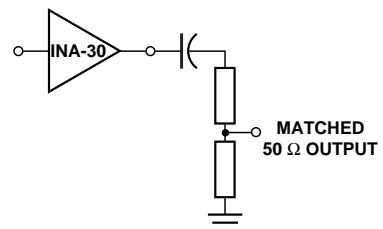

Figure 11. Impedance Matched Output.
- A second implementation, shown in Figure 11, uses a simple reactive network at the amplifier’s output to match the output impedance to 50 Ω.
This section describes a demonstration circuit for 900 MHz that is based on the matched output configuration shown in Figure 11.